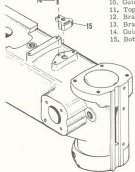

Figure 24. Replacing Spindle Brake
Legend - Figure 24
59. BRAKE SHOES (figure 24)